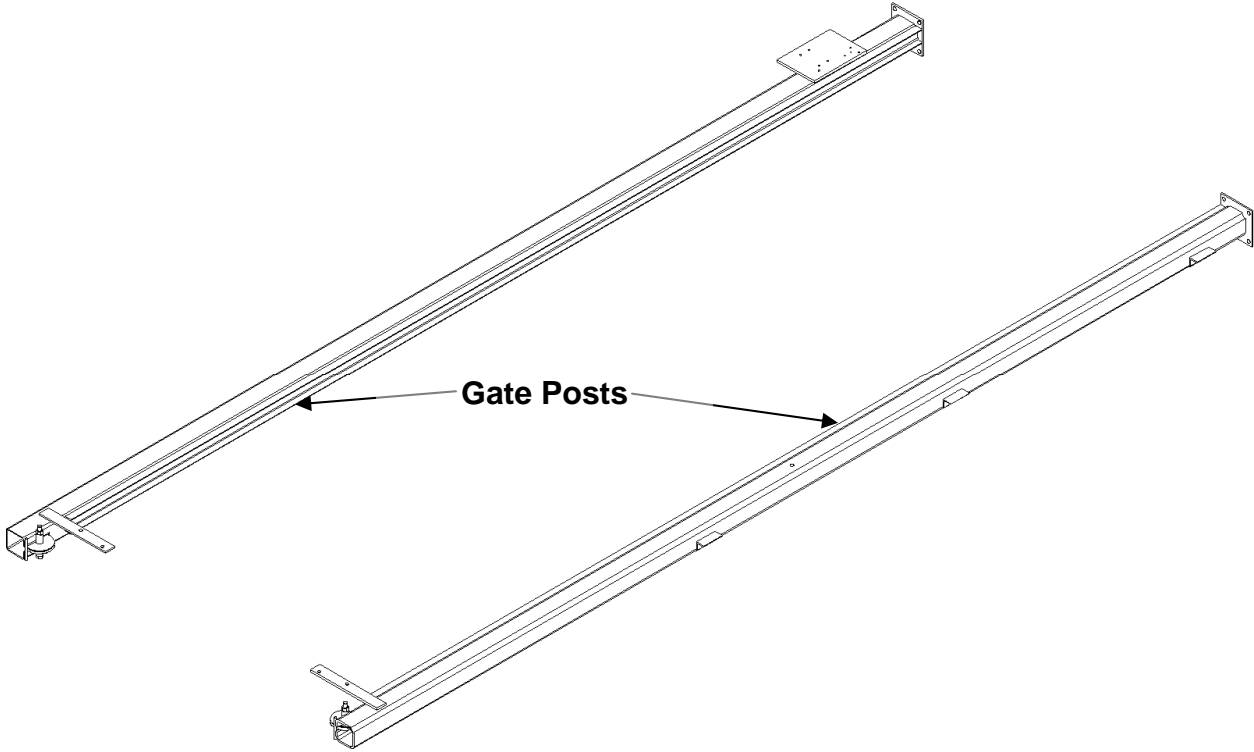

Figure 6 - Gate Posts
1. Begin by locating the gate posts. Position these on the floor in front of the lift. Make sure that the pulleys face the inside (see **Figure 6**). The interlock mounting plates should be facing up.